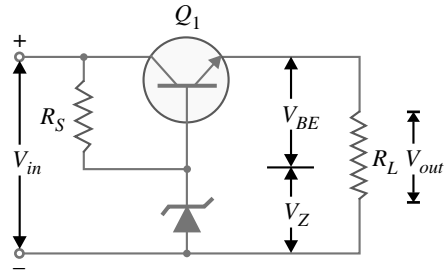

Fig. 15.15
Figure 15.15 shows a simple series voltage regulator using a transistor and zener diode. The circuit is called a series voltage regulator because the load current passes through the
series transistor  $Q_1$  as shown in Fig. 15.15. The unregulated d.c. supply is fed to the input terminals and the regulated d.c. output is obtained across the load. The zener diode provides the reference voltage.
**Operation.** The base voltage of transistor  $Q_1$  is held to a relatively constant voltage across the zener diode. For example, if 8 V zener (*i.e.*  $V_Z = 8\text{ V}$ ) is used, the base voltage of  $Q_1$  will remain approximately 8 V. Referring to Fig. 15.15,
**Example 15.16.** For the circuit shown in Fig. 15.15, if  $V_Z = 10\text{ V}$ ,  $\beta = 100$  and  $R_L = 1000\ \Omega$ , find the load voltage and load current. Assume  $V_{BE} = 0.5\text{ V}$  and the zener operates in the breakdown region.